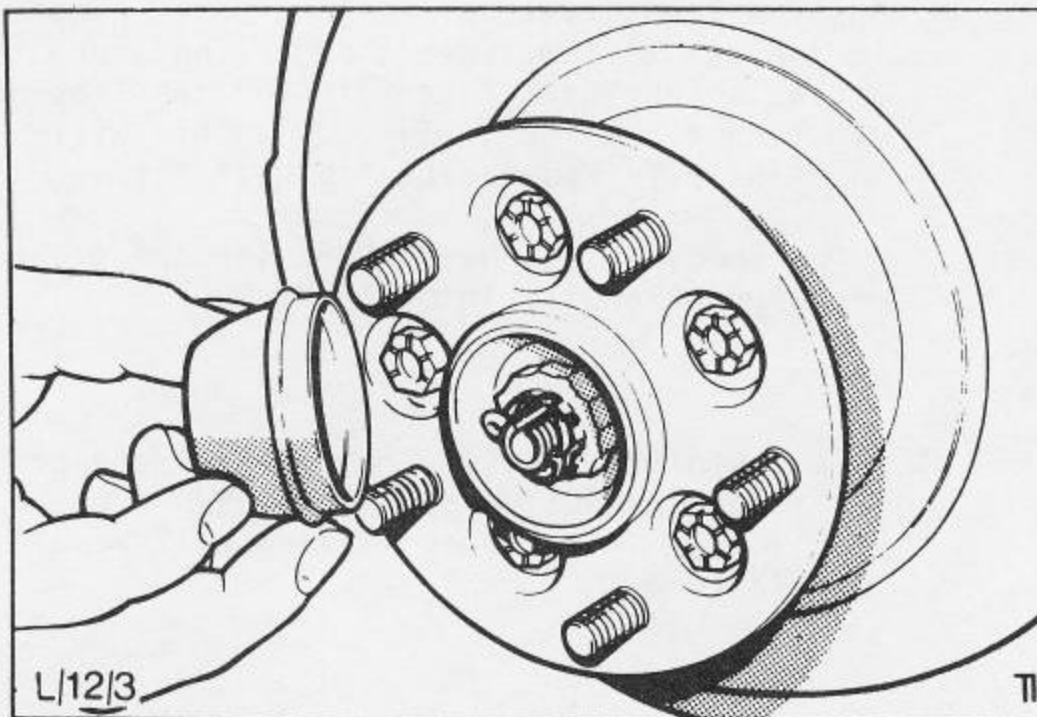

Fig.20 Replacing wheel bearing dust cap.
4. Slacken the nut back until an end float of 0.001 to 0.003 inch is obtained. Position adjusting nut retainer so as to align a slot in the retainer with hole in spindle and fit new split pin. Refit centre and dust cap. Fig.20